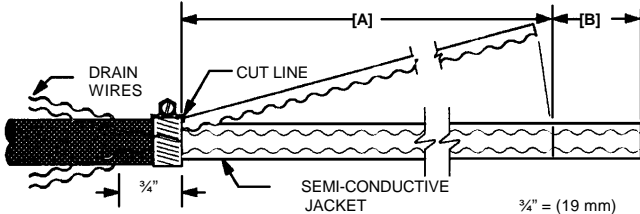

Figure 1
2. Remove drain wires from semi-con jacket for distance [A] + [B] + ¾" (19 mm) as shown in **Figure 1** and **Table 2**. (Be sure to allow for depth of lug barrel [B] .)
3. Install hose clamp at dimension [A] + [B] and cut 80% through jacket (**Figure 1**, **Table 2**).
4. Remove jacket by pulling against hose clamp (**Figure 1**). DO NOT BELL SEMI-CON JACKET. **NOTE: If double-layer semi-con jacket is difficult to remove, first score it longitudinally by cutting along grooves left by drain wires.**